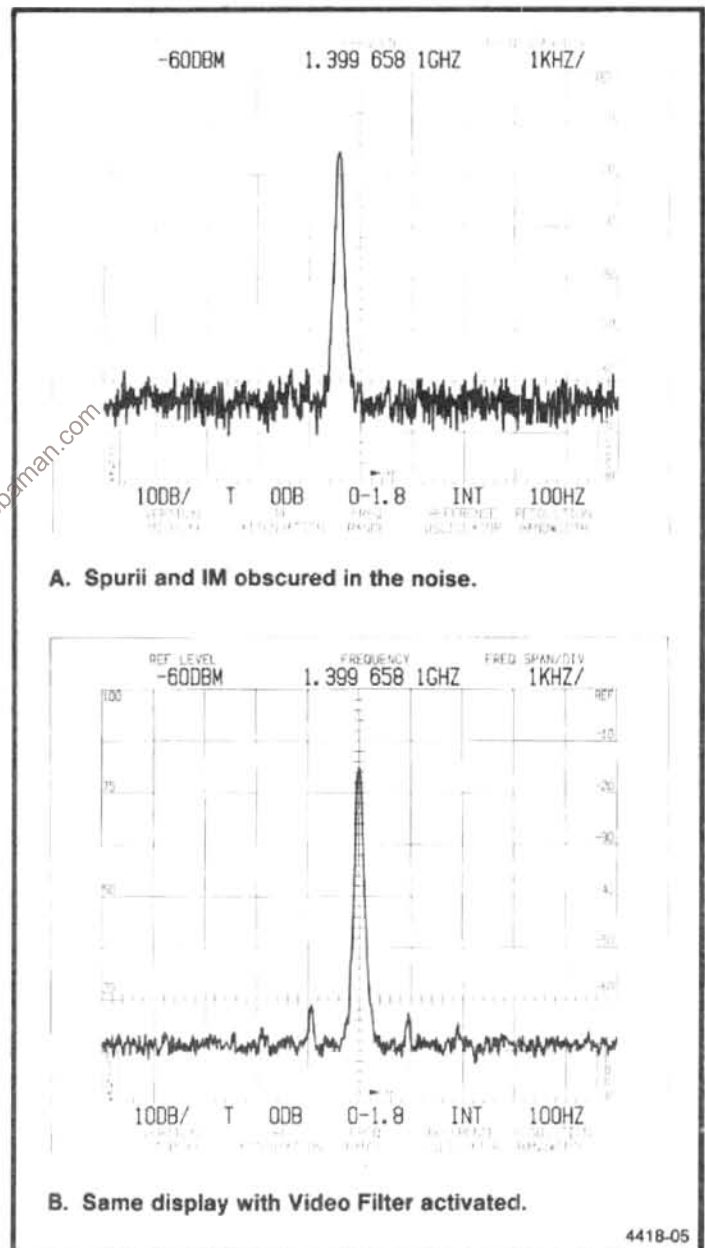

Figure 4-1. Video Filter effect on noise.
(1) Change the FREQ SPAN/DIV to 500 kHz, activate 10 dB/DIV and AUTO RESOLN, and tune the calibrator signal to center screen.
(2) Activate WIDE and NARROW Video Filters and note the reduction in noise as each filter is switched in (see Figure 4-1). The NARROW filter will have a more pronounced effect on noise reduction. Also note the change in sweep rate, if the TIME/DIV selector is in the AUTO position.
(3) Switch both Video Filters off.